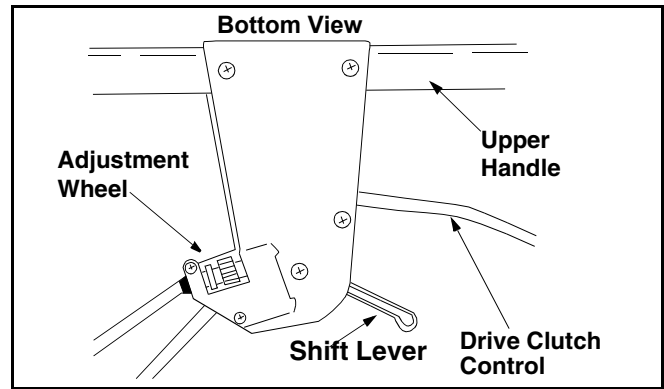

Figure 14
See Figure 14
- Start engine and place shift lever in the sixth speed position. See Figure 14.